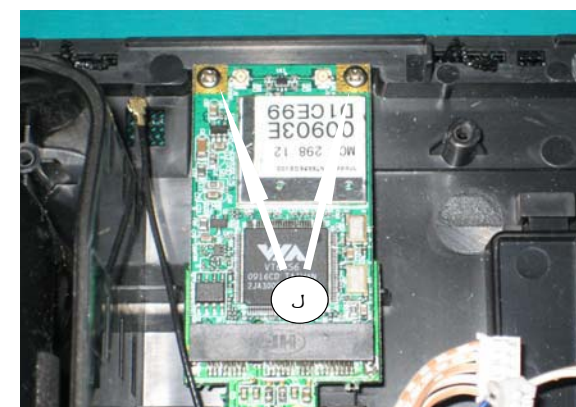

Figure 11
- 1) Loosen 2 screws "J" to detach WIFI Card as shown in figure 11.